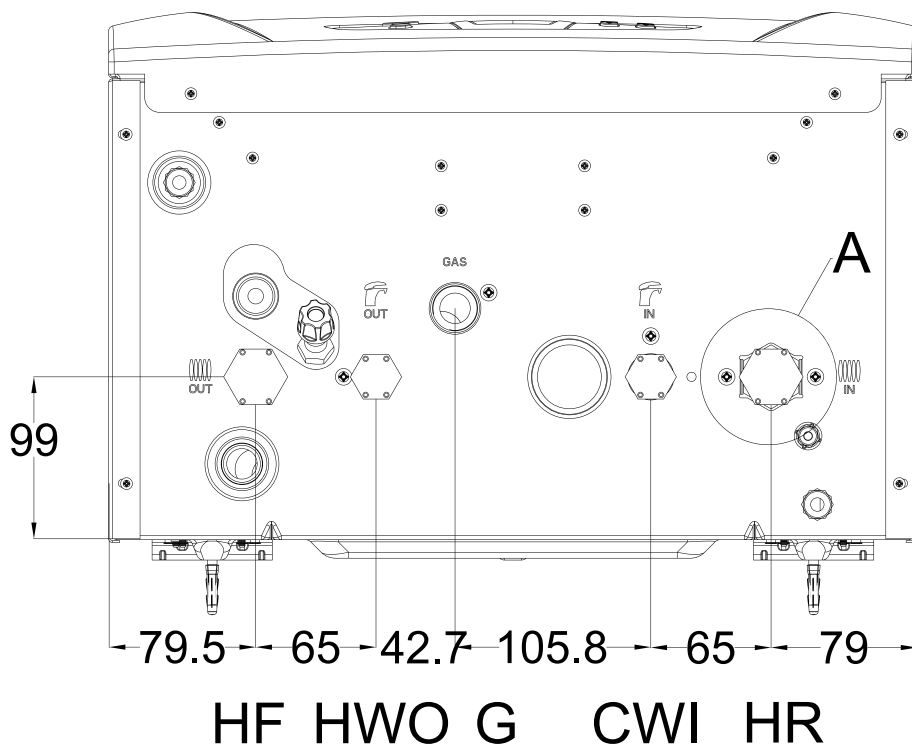

Figure 15. Water connections
-  The fitting placed under pump (Figure 15 – see Detail A) must be tightened with torque of maximum 18 Nm in case of rubber gasket use. This value is 30 Nm in case of cylinder head gasket use.